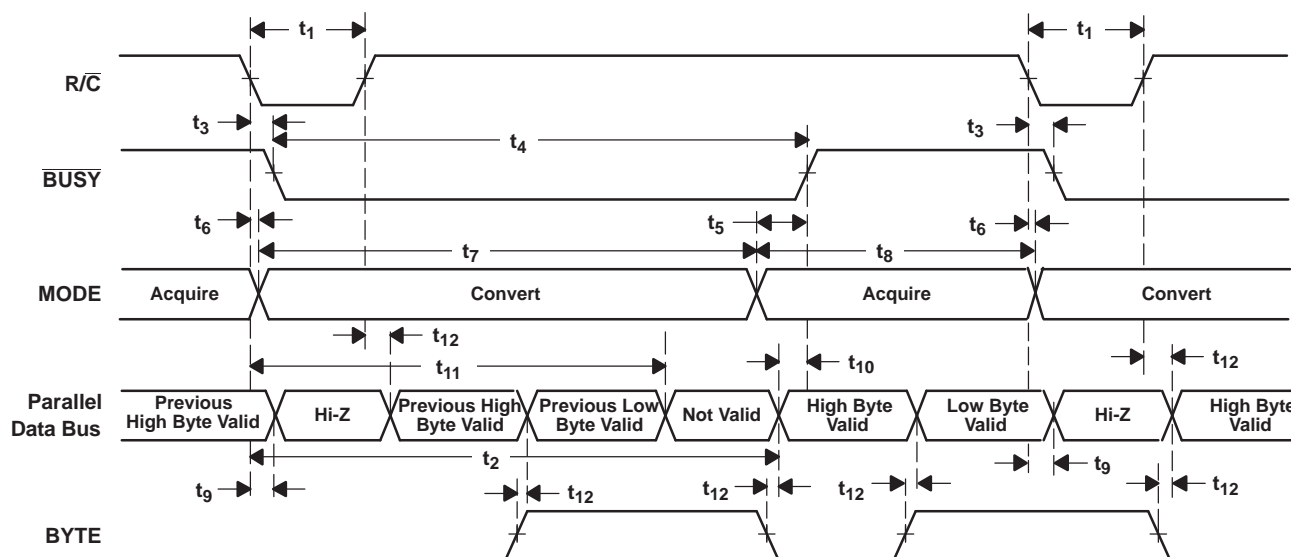
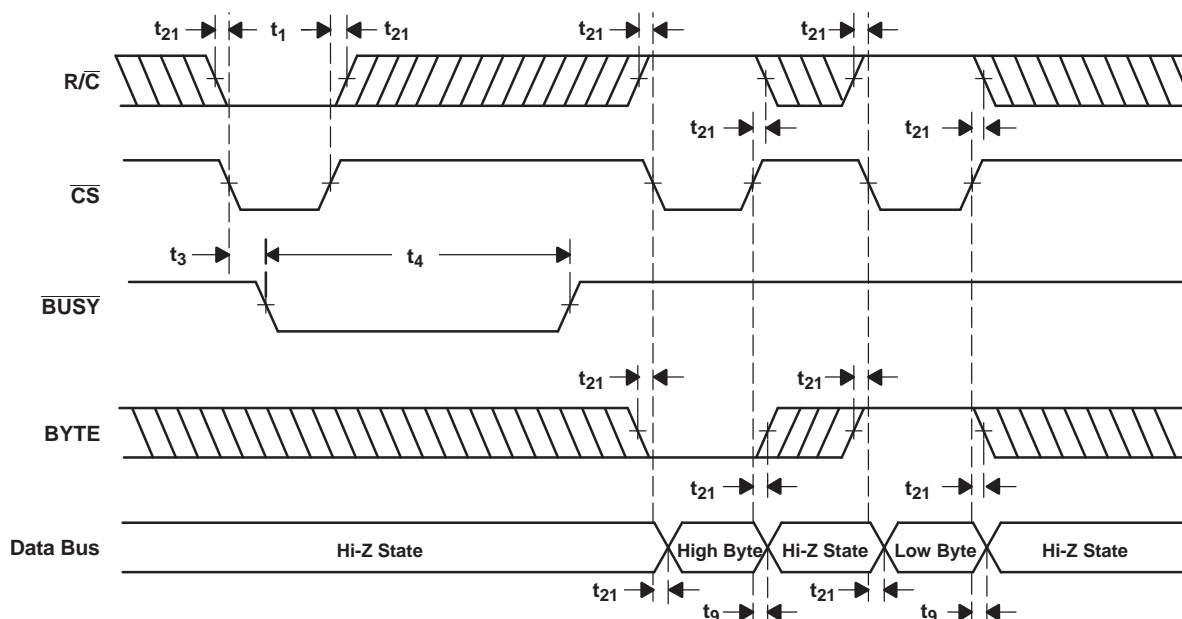

Figure 33. Conversion Timing With Parallel Output ($\overline{\text{CS}}$ and DATACLK Tied Low, EXT/INT Tied High)
Figure 34. \overline{CS} to Control Conversion and Read Timing With Parallel Outputs
The ADS8507 begins tracking the input signal at the end of the conversion. Allowing 25 μ s between convert commands assures accurate acquisition of a new signal. Refer to Table 2 and Table 3 for a summary of \overline{CS} , R/\overline{C} , and $BUSY$ states, and Figure 33, Figure 34, Figure 35, Figure 36, Figure 37, Figure 38, and Figure 39 for timing diagrams.
(1) See Figure 33 and Figure 34 for constraints on data valid from conversion $N-1$.
After conversion N is completed and the output registers have been updated, $\overline{\text{BUSY}}$ (pin 24) goes high. Valid data from conversion N is available on D7-D0 (pin 9-13 and 15-17). $\overline{\text{BUSY}}$ going high can be used to latch the data. Refer to Table 5 and Figure 33 and Figure 34 for timing specifications.
After conversion N has been initiated, valid data from conversion $N-1$ can be read and is valid up to 12 μs after the start of conversion N . Do not attempt to read data beyond 12 μs after the start of conversion N until \overline{BUSY} (pin 24) goes high; this may result in reading invalid data. Refer to Table 5 and Figure 33 and Figure 34 for timing constraints.